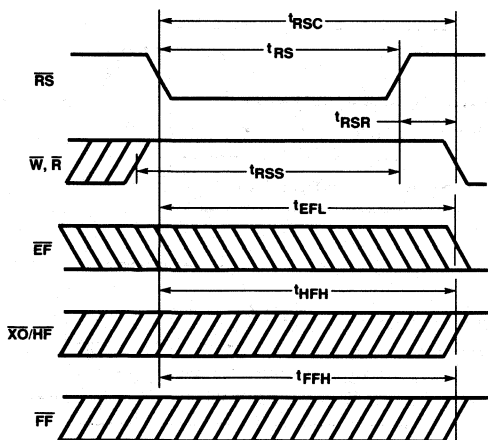

Figure 2. Reset Timing
Upon power up, the FIFO must be initialized with a Reset cycle. (See Figure 2.) The states of \overline{XI} and \overline{FL} are used during the reset cycle to determine the FIFO's mode of operation, as shown in Tables 1 and 2. For a valid reset cycle to occur, both the Read (R) and Write (W) signals must be HIGH t_{RSS} prior to and t_{RSR} after the rising edge of Reset (RS). The reset cycle initializes the FIFO to an empty condition, signified by the Empty Flag (\overline{EF}) being LOW, active, and both the Half-Full (HF) and Full Flag (FF) being HIGH, inactive.